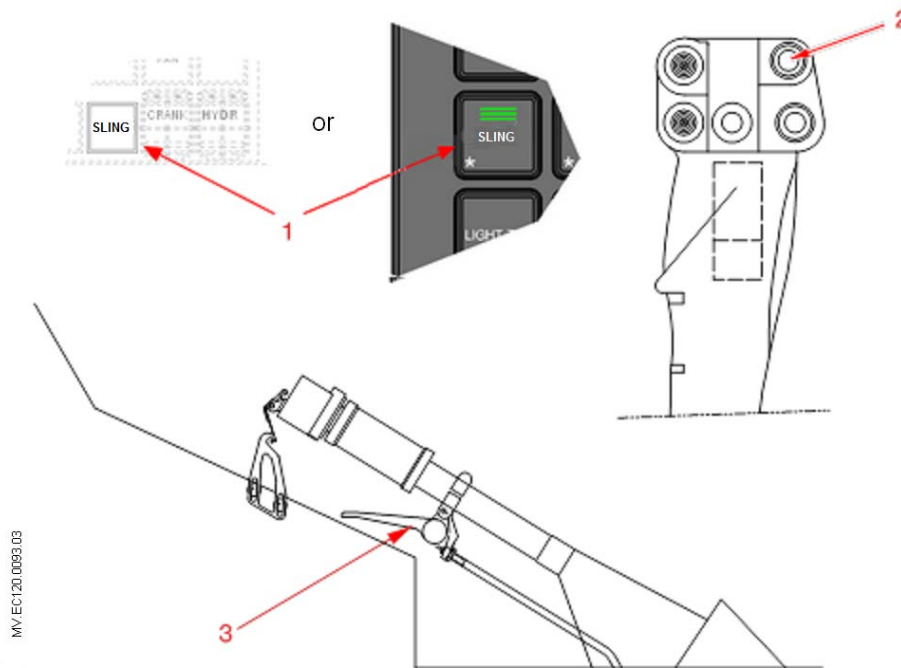

Figure 2: Cargo sling controls
- A control system is provided for the pilot (Figure 2):
- A [**SLING**] pushbutton (1) located on the LACU, for powering on the installation,
- A release control (2) on the cyclic grip (electrical mode),
- A release handle (3) located under the collective lever (mechanical mode).